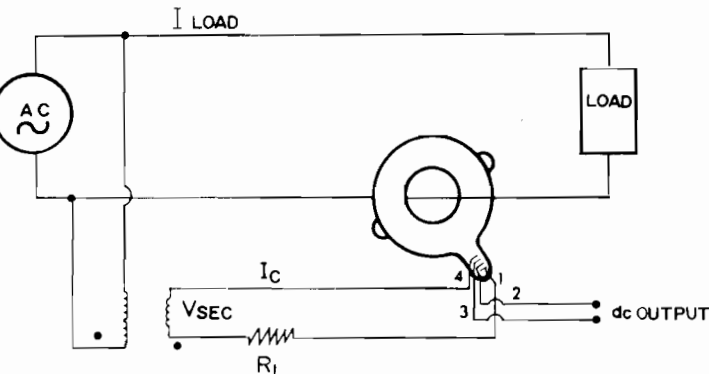

Fig. 2 AC Power Measurement
Fig. 2 illustrates a typical schematic for a Real Power measurement application. The load current is sensed by passing the load-current-carrying conductor through the current sensor aperture, eliminating the need for a current transformer (CT). Hall generator excitation current ( $I_c$ ) is derived from a step-down potential transformer (PT) and resistor (R). Other means